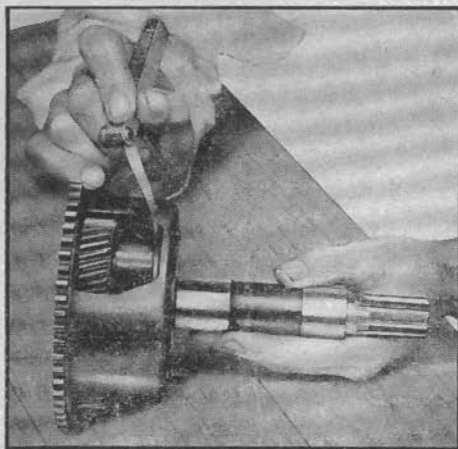

Fig. 55A Checking planet gear end clearance. 1950-58
4. Check end clearance of planet gears, which should be .006-.030", Fig. 55A.